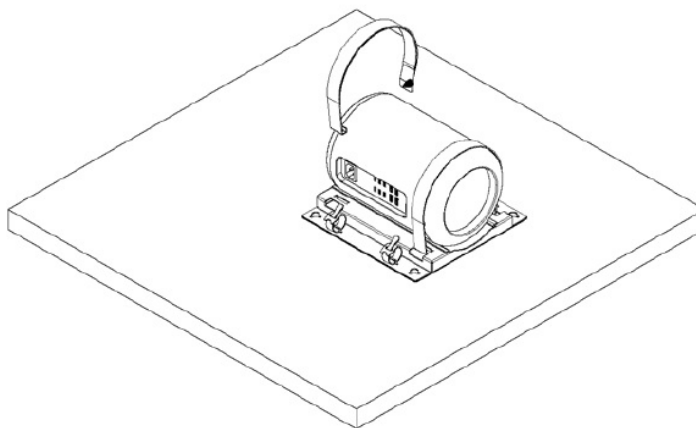

Figure 2
4. Install the MAC® PRO onto the computer mounting bracket using the clamps provided, using a flat Horizontal work surface such as a desk or workbench. Make sure the thumbscrews are tight and the MAC® PRO is secure. (See Figure 3.) A pictorial of assembling the MAC® PRO into its bracket while resting on a horizontal surface is shown in Figure 2 below.
4. Install the MAC® PRO onto the computer mounting bracket using the clamps provided, using a flat horizontal work surface such as a desk or workbench. Make sure the thumbscrews are tight and the MAC® PRO is secure. {See Figure 3.) A pictorial of assembling the MAC® PRO into its bracket while resting on a horizontal surface is shown in Figure 2.
2. Install the MAC® PRO onto the computer mounting bracket using the clamps provided, using a flat horizontal work surface such as a desk or workbench. Make sure the thumbscrews are tight and the MAC® PRO is secure. (See Figure 3.) A pictorial of assembling the MAC® PRO into its bracket while resting on a horizontal surface is shown in Figure 2.